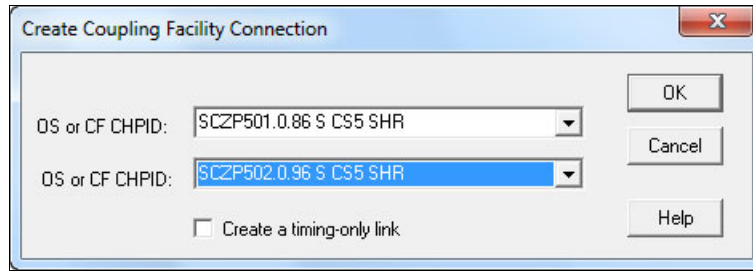

Figure 5-30 HCM - Create Coupling Facility Connection: selecting second CS5 CHPID
19. From the pull-down, select the second CS5 CHPID that we defined (SCZP502 - 0.96), and then click **OK**. See Figure 5-30.